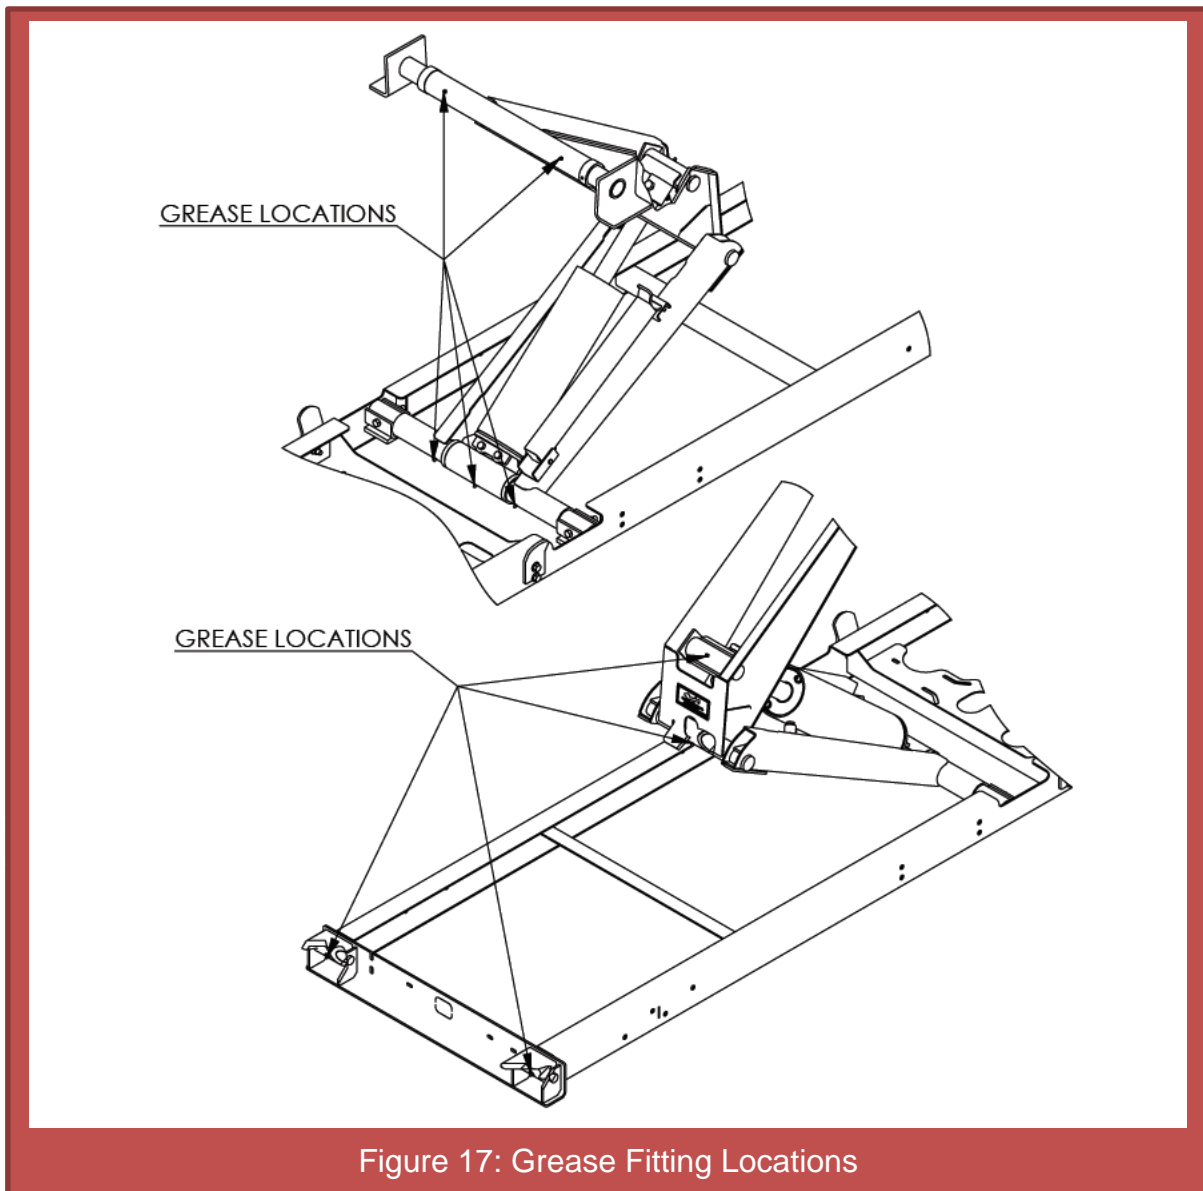

Figure 17: Grease Fitting Locations
12. Install and grease the fittings as shown in **Figure 17.**